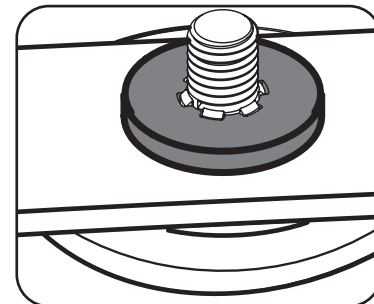

Figure 4
2. Carefully place the flat washer on the spindle shaft. Be sure that the splines at the base of the spindle shaft threads line up with the washer splines. See Figure 4.